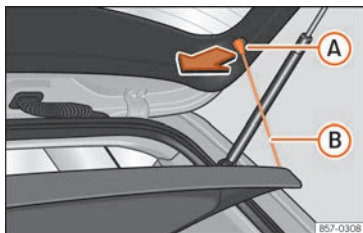

Fig. 115 In the luggage compartment: removing and fitting the shelf.
- Detach the cord loops »» Fig. 115 (A) from their hooks (B).
- Hook the loops »» Fig. 115 (B) to the rear lid.